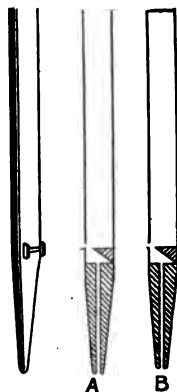

FIG. 373. — Organ pipes: (A) open, and (B) closed.
**404. Wind instruments.** The simplest wind instrument is the **organ pipe**. Sometimes the tube is open at the upper end and is called an *open pipe* [Fig. 373 (A)]; at other times the pipe is closed at the upper end and is called a *closed pipe* [Fig. 373 (B)].